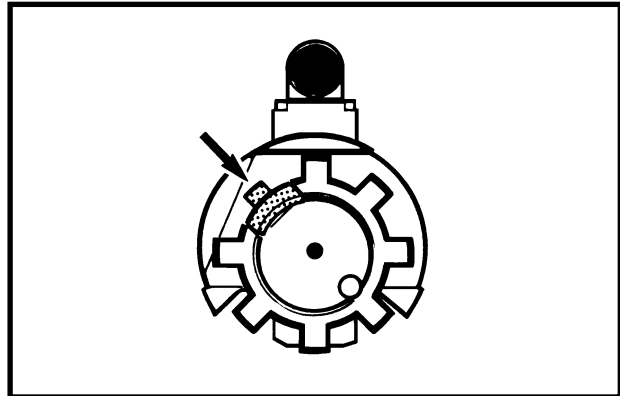

Figure 3-2-36 Assembling the Extractor
- (1) With the bolt adequately supported, start the ejector retaining pin into its hole, being careful to leave clearance for installing the ejector;
- (2) Position the ejector spring and ejector in the bolt;
- (3) Depress the ejector to compress the ejector spring; and
- (4) Secure it with the ejector pin, ensuring that the ends of the pin are flush or below the outer surface of the bolt body.
- c. To install the extractor, hold the extractor and spring in position, see Figure 3-2-36 and insert the extractor pin.